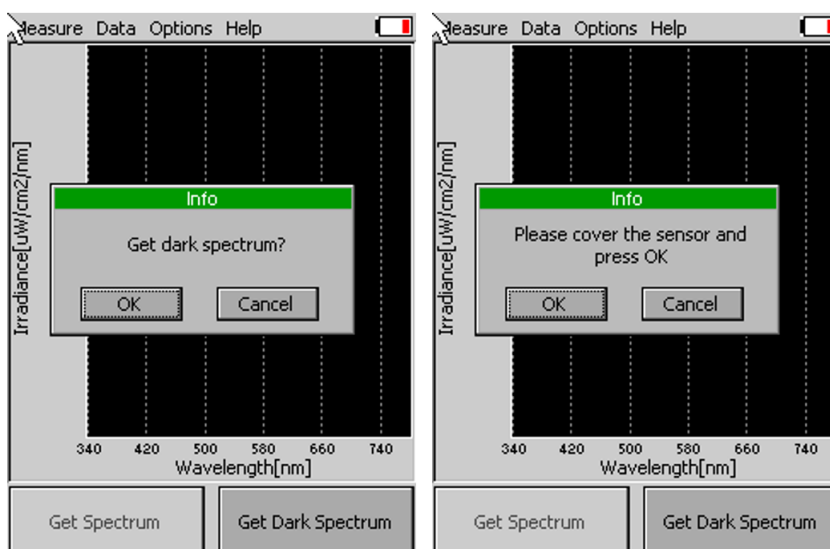

Fig. 3 Dark spectrum calibration – part 1.
- On the opening screen of the device select **Get Dark Spectrum** >press **OK** (Fig. 3)